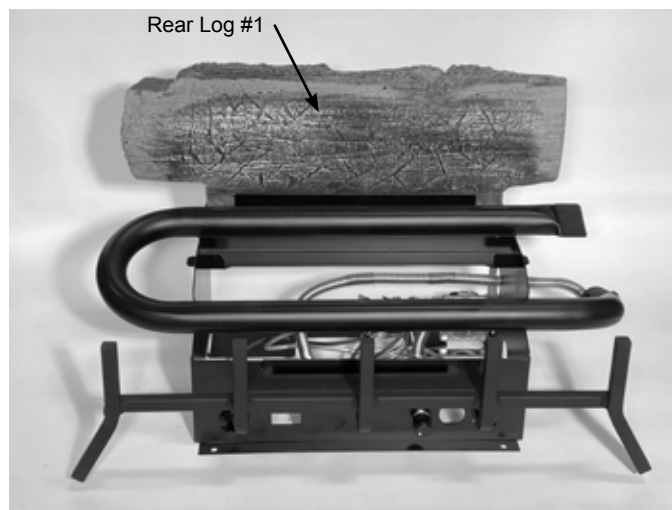

Figure 6.1 - Place Rear Log
1. Place Rear Log (#1) on rear support. Figure 6.1